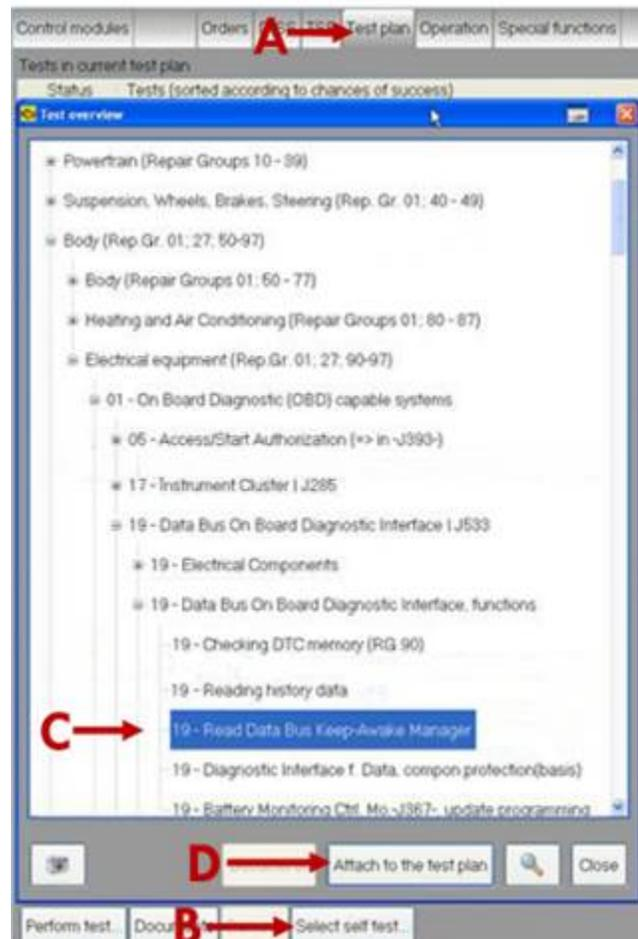

Figure 8. Selecting test plan in ODIS.
10. On equipped vehicles (A5, Q5, 2009+ A4, 2012+ A6/A7, 2011+ A8), check the Keep-Awake Manager to determine if any modules kept the CAN bus awake (Figure 8):
- Select **Test plan** (A).
- Select **Select self test...** (B)
- In the Test Overview window, select **Read Data Bus Keep-Awake Manager** (located under *Body >> Electrical equipment >> 01 - On Board Diagnostic (OBD) capable systems >> 19 - Data Bus On Board Diagnostic Interface | J533 >> 19 - Data Bus On Board Diagnostic Interface functions >> 19 - Read Data Bus Keep-Awake Manager*) (C).
- Select **Attach to the test plan** (D).